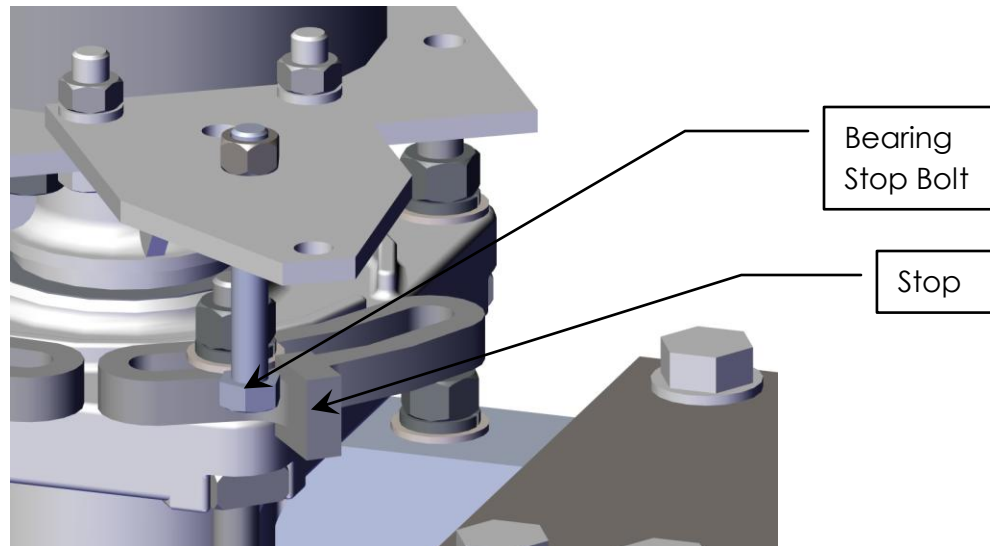

Figure 28: Bearing Opened Position Stop
- c) The bearing opened position stop at the bottom of the insulator is correctly adjusted when there is a $\frac{1}{16}$ " to $\frac{1}{8}$ " clearance between the stop and the stop bolt. Adjust stop if necessary. See Figure 28.